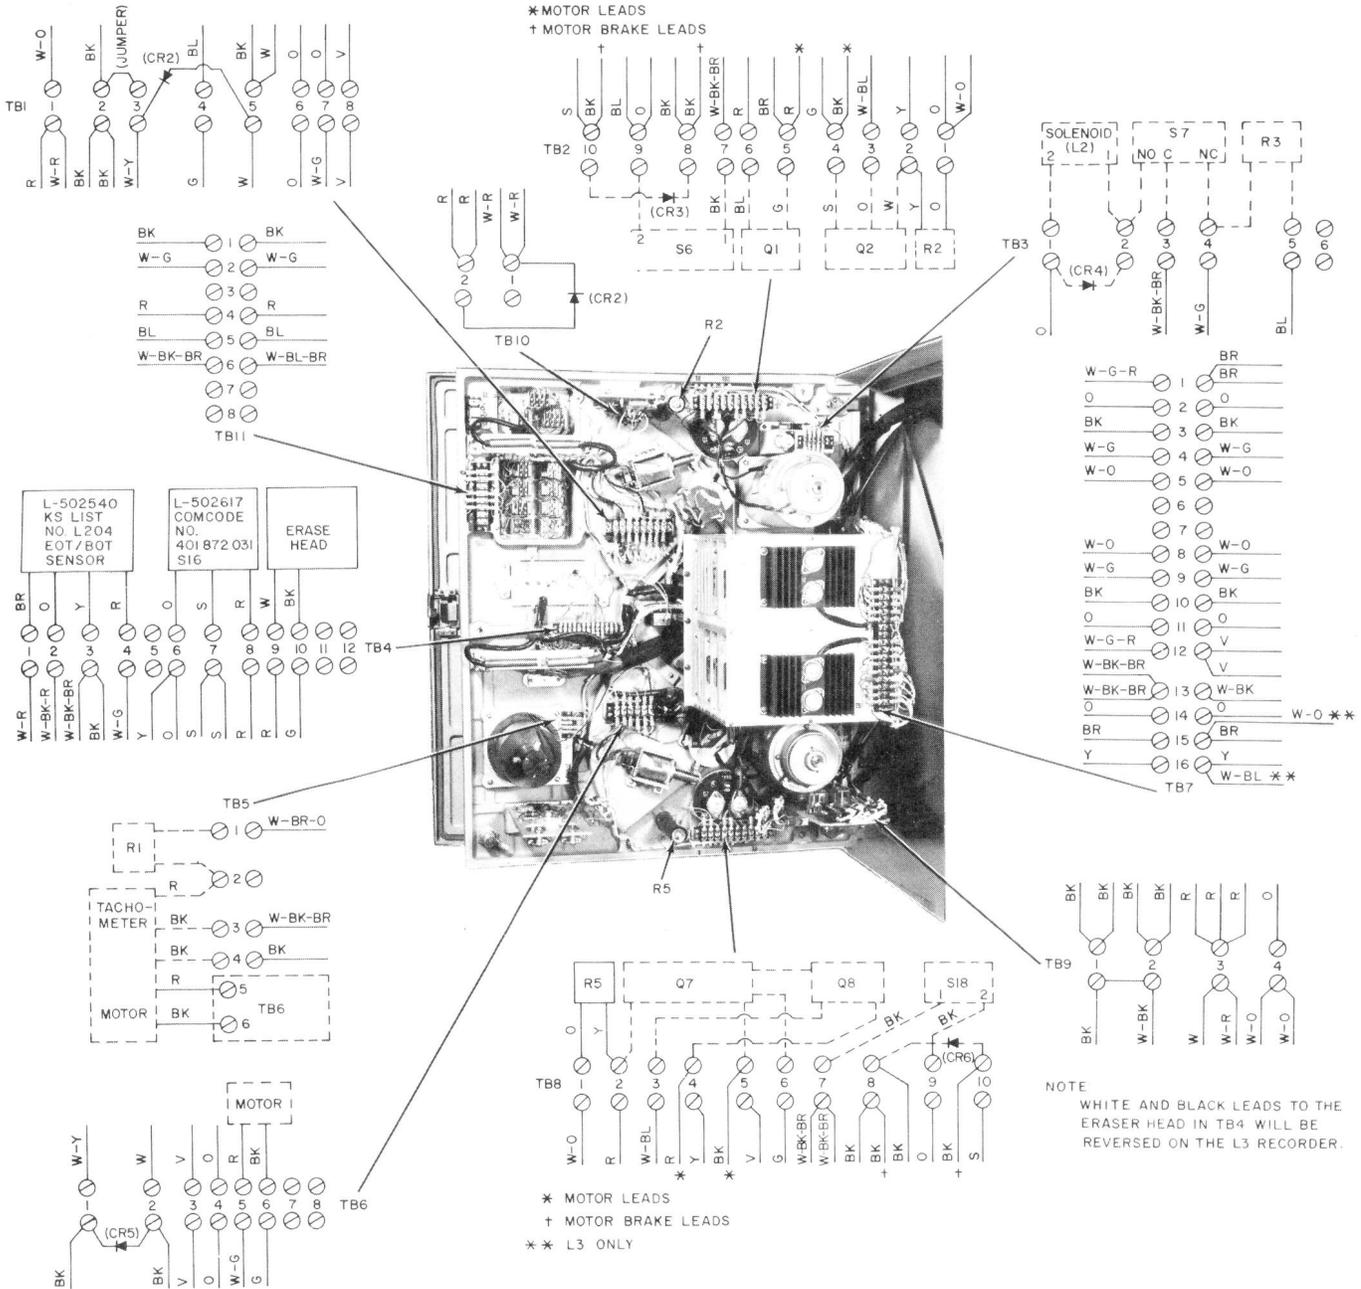
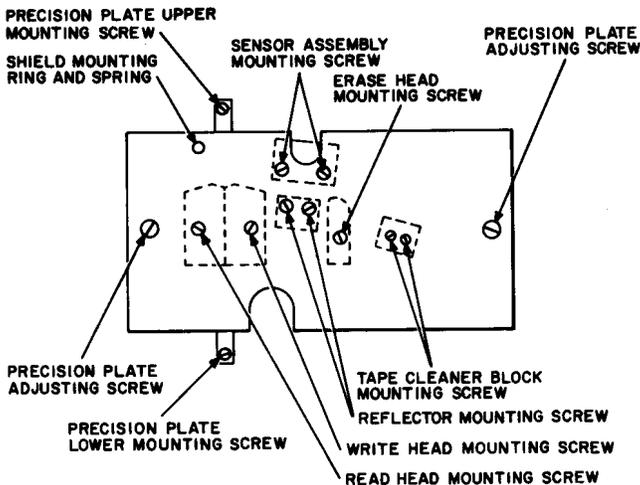

Fig. 15—Terminal Board Wiring Color Codes
Fig. 16—Precision Plate Assembly (L1 and L2 Recorders)
- (7) Apply a uniform coat of C-2471 compound to the mounting surface of the replacement reel drive motor assembly using the R-1021 brush.
- (8) Mount the replacement reel motor assembly so that the power and brake leads exit the motor nearest to the associated terminal board.
- (9) Twist the motor leads (as a pair), and connect to the terminal board in accordance with Fig. 15.
- (10) Twist the motor brake leads (as a pair), and connect to the terminal board (Fig. 15).
- (11) Mount the inner reel hub assembly to the collar on the reel motor main shaft.
- (1) With recorder power removed, disconnect the two black brake leads from TB2-8 and TB2-10 (supply reel motor) or TB8-8 and TB8-10 (take-up reel motor) using the 4-inch C screwdriver.
- (2) ♦For late model tape transports, remove the roll pin (using a 1/8-inch punch) securing the break collar to the motor shaft. For earlier models, loosen the two set screws that secure the magnetic brake to the motor shaft, using the R-2958 hex socket screw wrench.♦
- (3) Using the 4-inch C screwdriver, remove the four brake mounting screws and washers that secure the brake housing to the motor housing.
- (4) Remove the brake from the reel motor.
- (5) When installing the replacement brake, align the setscrews on the reel motor shaft flats.
- (6) Install and connect the preshimmed replacement brake in reverse order of removal, and torque the setscrews to 15 inch-pounds using the APCO Mossberg B50 torque screwdriver equipped with the 185-0 socket head bit (5/64 inch).
- (7) Twist the motor brake leads (as a pair) before connection to the terminal board (Fig. 15).
- (8) Remove the screws on the brake plate, and then remove the spacer shims.
- (1) Unload any reel of tape from the transport.
- (2) From the back of the transport, remove the three cable assembly leads from TB5 and the two motor leads from TB6.
- (3) Using the 4-inch E screwdriver, remove the four motor assembly mounting screws and washers being careful to support the assembly while removing the last mounting screw.
- (4) Carefully guide the capstan assembly through the transport casting hole.
- (5) Carefully inspect the capstan mounting plate of the replacement assembly and the mounting surface on the transport casting. Remove all burrs and dirt prior to mounting the replacement assembly.
- (6) Apply a uniform coat of C-2471 compound to the mounting surface of the capstan mounting plate using the R-1021 brush.
- (7) Mount the replacement assembly so that TB5 is located at the top right side of the mounting plate.
- (8) See Fig. 15 for lead color codes and terminal number assignment. Then connect the three cable assembly leads to TB5 and the two motor leads to TB6.
- (3) Disconnect the erase head leads from TB4 (Fig. 15) using the 4-inch C screwdriver.
- (4) Disconnect J4 and P5.
- (5) Remove the precision plate adjusting screws using the 3-inch C screwdriver (Fig. 16) to prevent screw damage.
- (6) Remove the lower precision plate mounting screw and washer first using the 4-inch C screwdriver.
- (7) While supporting the precision plate assembly, remove the upper plate assembly mounting screw and washer.
- (8) Very gently remove the precision plate assembly.
- (9) Carefully inspect the replacement precision plate mounting surfaces and the transport casting mounting surfaces. Remove all burrs and dirt prior to mounting the assembly.
- (10) Mount the precision plate assembly in reverse order of removal.
- (11) Perform the static skew requirements check and adjustment in accordance with Section 034-369-701.